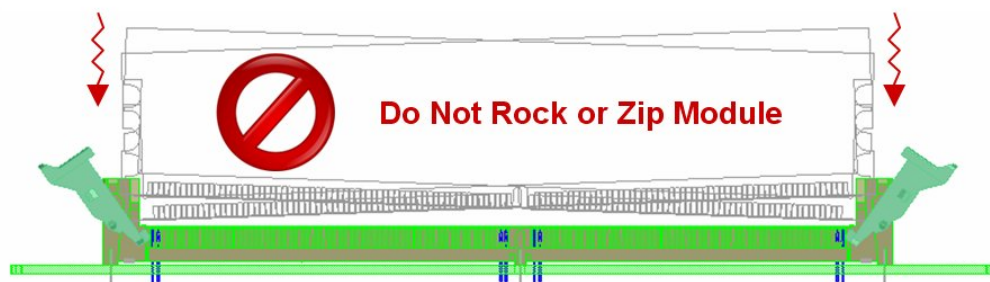

Figure 4 — View of module being pressed vertically down into the socket
9. Press the module vertically down into the socket using pressure at each end of the module keeping the leading edge of the DIMM parallel to the connector until it fully seats to the bottom of the socket. When the module engages the contacts in the socket, resistance will be felt requiring more force to push the module down. During this stage please follow the below instructions carefully or damage may occur. See Figure 4.